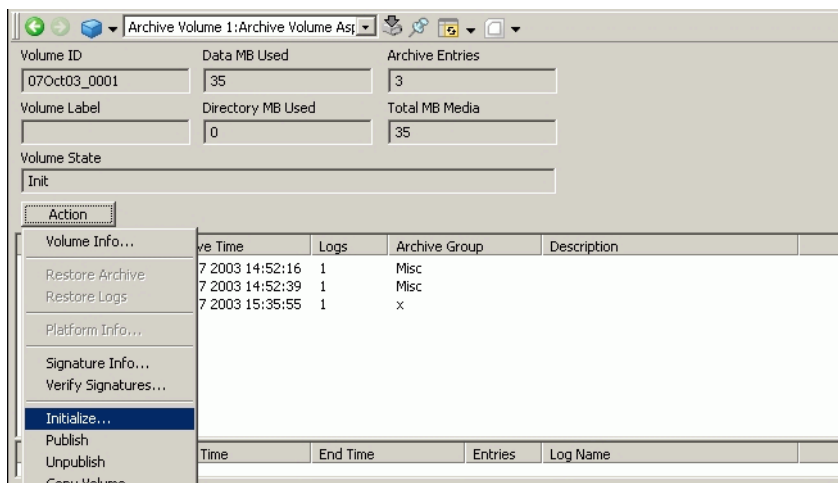

Figure 68. Initializing a Volume From the Archive Volume Aspect
3. If the archive volume aspect is being used, invoke the Initialize command from the Action button or context menu as shown in Figure 68, then skip steps 4 and 5 which pertain only when using the archive device aspect. Resume the procedure at Step 6.